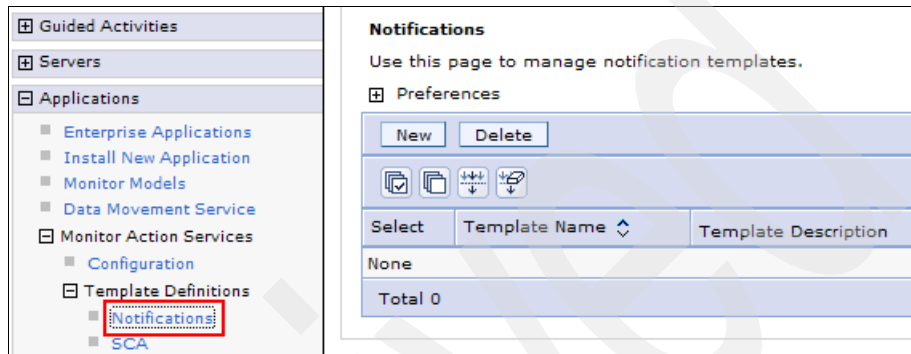

Figure 5-83 Navigating to Notifications
- a. In the WebSphere Business Monitor administrative console (Figure 5-83), expand **Applications** → **Monitor Action Services** → **Template Definition** and click **Notifications**.